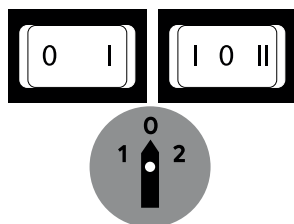

Fig. 1
- Any type of operation, whether cleaning, checking the product to be worked, adjustment, setting up, etc. must always be carried out when the machine is turned off, that is with the switch in position **0** (see Fig. 1) and the plug removed from the electric socket, in order to avoid accidental starting. The machine should be started only when in use.
- Check that the switch on the motorised body is in the position **0** (Fig. 1), then plug in the machine.
- Load the product to be worked into the hopper and press it down using only the presser (L). Never use the hands.